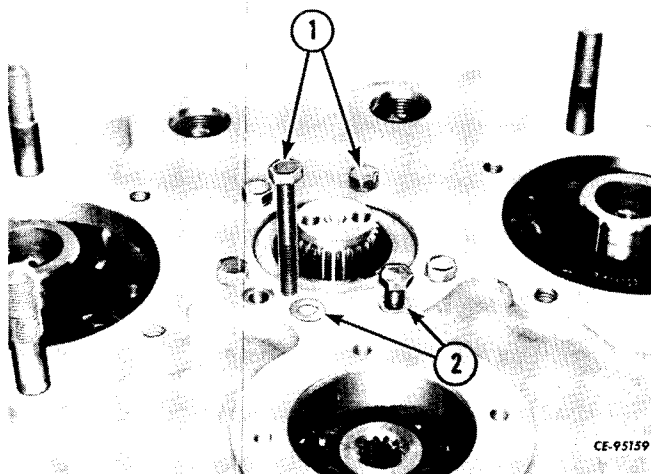

Figure 3-44
Install new copper washers (2, Fig. 3-44) on cap screws (1). Install cap screws through converter housing and into guide wheel carrier. Tighten cap screws to the recommended torque (refer to "SPECIAL TORQUES").